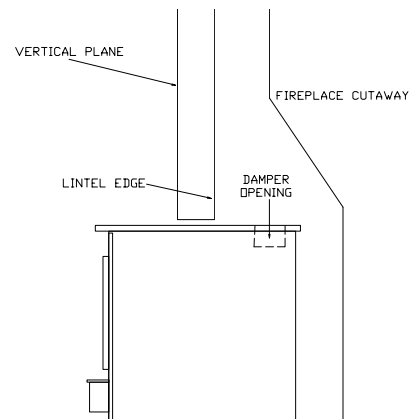

FIGURE 2 POSITIONING
When positioning heater, following conditions **MUST** be met! (See Figure 2).
1. The front of damper opening must be positioned **BEHIND** rear edge of lintel to ensure proper draft. (See Figure 2).